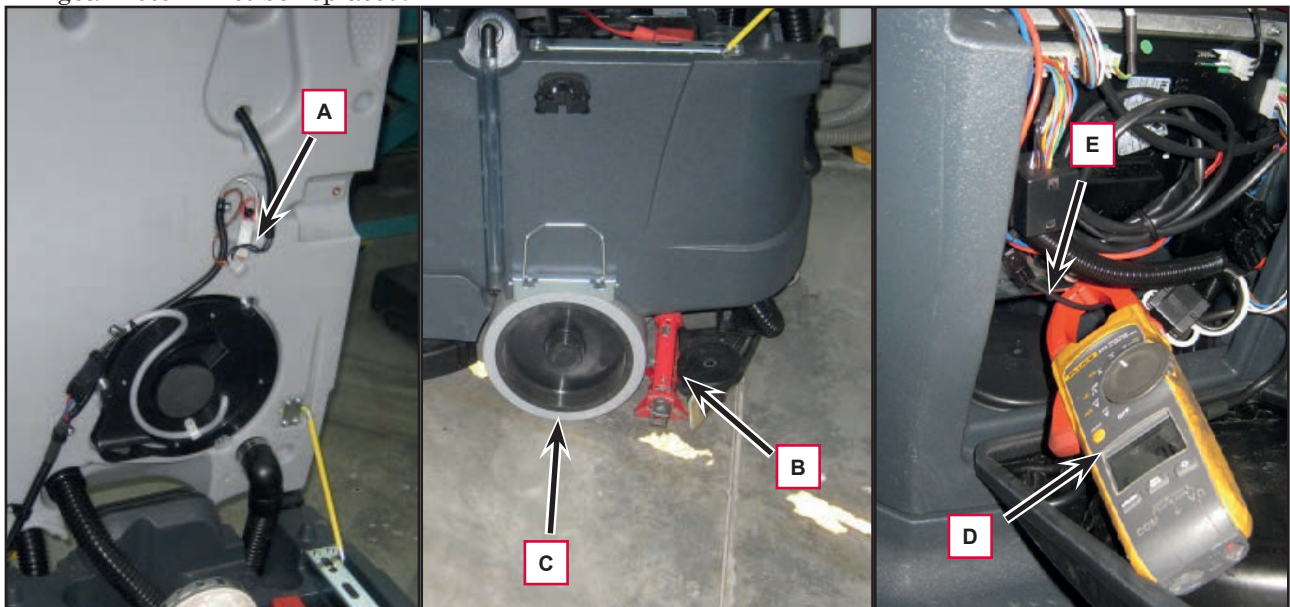

Figure 5
3. Apply a jumper wire (A, Figure 5) on the driver's seat sensor connector to disable the system.
5. Place a suitable lifting device (B) to raise one side of the machine approximately 2 cm from the floor (C) and allow one driving wheel to turn freely.